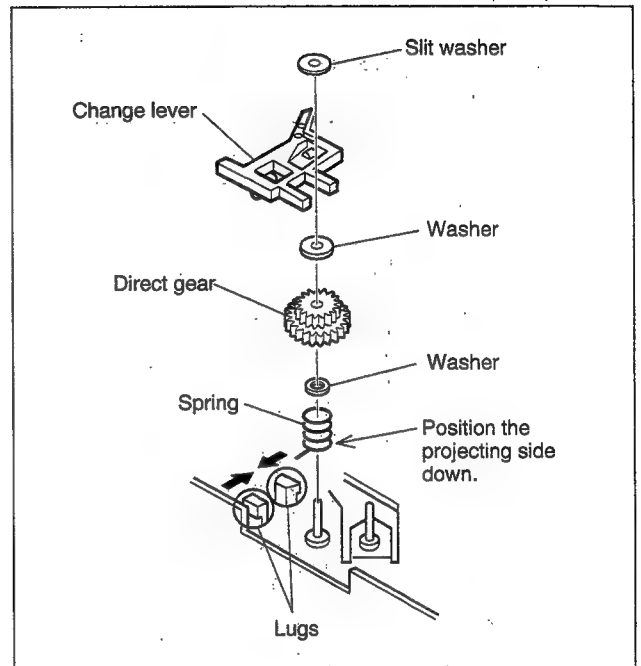

Fig. 2-2-20
- (1) Release two lugs of the rotary encoder guide in the arrow-indicated direction and remove the change lever.
- (2) Remove the slit washer retaining the direct gear and remove the latter.
- Take care of the two washers and one spring on and under the direct gear. (See Fig.2-2-20)